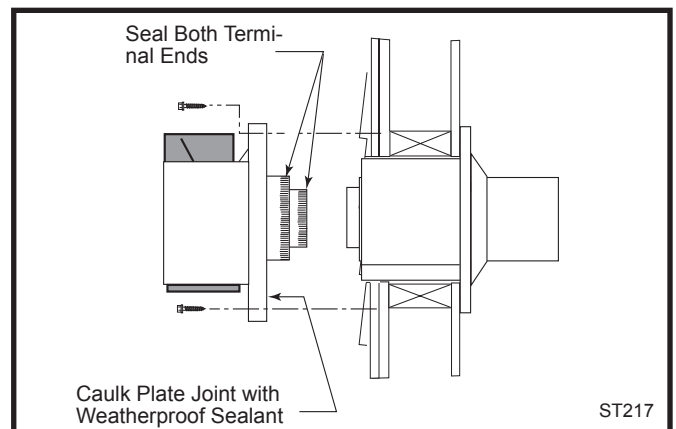

Fig. 29 Install the vent terminal.
10. For both MHSC and DuraVent Systems: Install the vent terminal. (Fig. 29) Apply high temperature sealant one inch from the ends of the inner and outer collars. Guide the inner and outer vent termination collars into the adjacent pipes. Double check that the vent pipes overlap the collars by 2". Fasten the termination to the wall with the screws provided, and caulk the joint with weatherproof sealant.